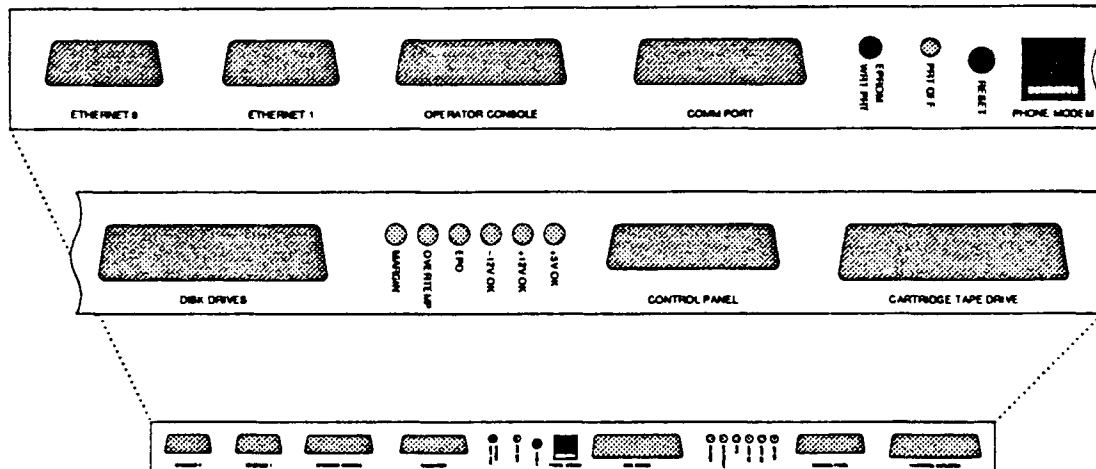

Figure 1.5 - RESHA Board Face Plate
- 2. From the front of the 400S cabinet, ensure that the following cables are connected at the RESHA board face plate: Refer to Figure 1.5 for connector location.
Note: At least one terminal is required to boot the Series 400S. The terminal must be an ANSI standard VT100 console and links to the Operator Console port (Refer to Figure 1.5). As Rational does not supply Rational terminals with the Series 400S, the customer should make sure an ANSI standard terminal is available at installation time.
- ❑ 2. Install the operator console cable in the connector marked "Operator Console". The connector is located on the RESHA face plate. (Refer to Figure 1.5). This cable should be routed down the outside edge of the disk housing, out the bottom of the cabinet, and fed through the raised-floor tile that has been cut out for terminal and network cables. Route the cable as directly as possible to where the operator console is to be located. Feed the end of this cable back up through the tile cutout nearest the operator console and connect it to the terminal.